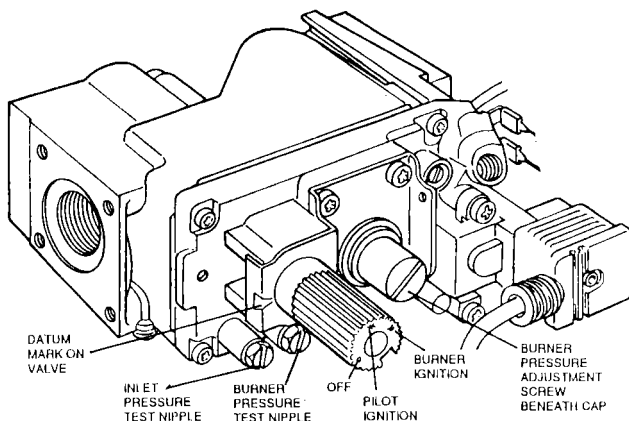
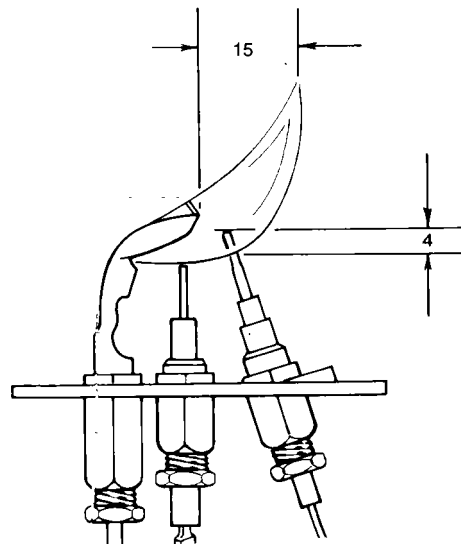

Figure 25 GAS CONTROL VALVE
Figure 26 PILOT BURNER
- F. Partly depress and turn the gas control knob clockwise ensuring the symbol ● lines up with the datum mark on the gas valve body. See Fig 25. This ensures that the valve is in the 'OFF' condition.
- A. Remove the screw from the burner pressure test nipple on the gas control valve and fit a pressure gauge to the test nipple. See Fig 25.
- C. If burner pressure adjustment is necessary, remove the screwed cap from the gas control valve, see Fig 25, and turn the screw beneath clockwise to increase pressure and anti-clockwise to reduce pressure.
The pilot burner pressure is non-adjustable. The pilot flame should heat the thermocouple so that the pilot safety device is "held in" but must not cause the thermocouple to glow bright red. Fig 26 illustrates the approximate size of a correct flame. The E.M.F. generated by the thermocouple should be of the order of 20-30 mV open circuit, 10-14 mV closed circuit. Due to the voltage drop in the overheat thermostat circuit there should be 6.5-8.5 mV closed circuit at the connection to the gas control valve. Drop out should occur between 1-3 mV closed circuit. If these conditions cannot be achieved check that the inlet pressure is 20 mbar. See Fig 25 for inlet test nipple position. If this is correct contact Potterton Myson.